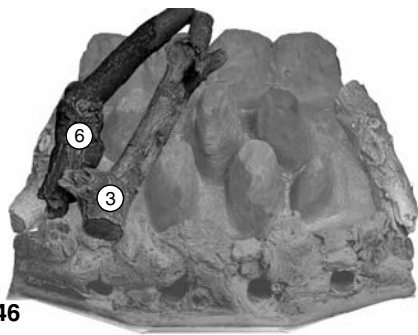

Fig. 46
5. Following Figs. 46 to 52, place the loose logs on to the fuel bed. It is important that the logs 'nest' together and sit on top of the fuel bed peaks.